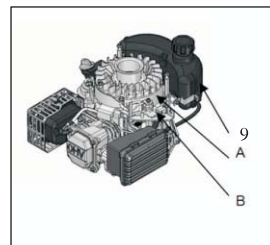

Fig. 12
4. Move the brake control handle (located on equipment) to release the flywheel brake, and verify that there is clearance between the governor arm and the throttle return rod when the throttle return rod when the throttles in the fast (or high) position. Also verify that there is at least 2 mm clearance between the stopper and the brake cable bracket. (See Fig. 12)